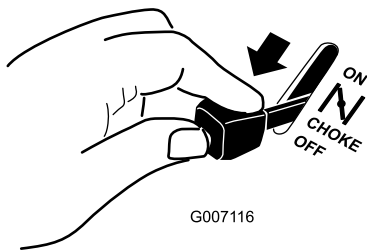

Figure 24
5. Gradually move the choke lever to the Off position (Figure 24). If the engine stalls or hesitates, engage the choke again until the engine warms up.